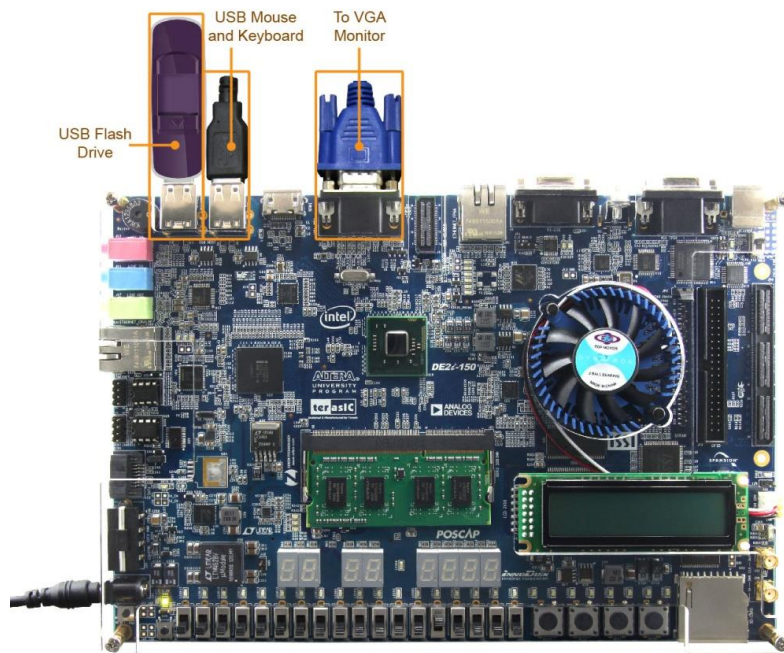

Figure 2-12 Hardware setup for the installation of Windows 7 from USB flash drive
1. Plug in your Windows 7 bootable USB flash drive to one of the USB ports on DE2i-150, as shown in Figure 2-12.